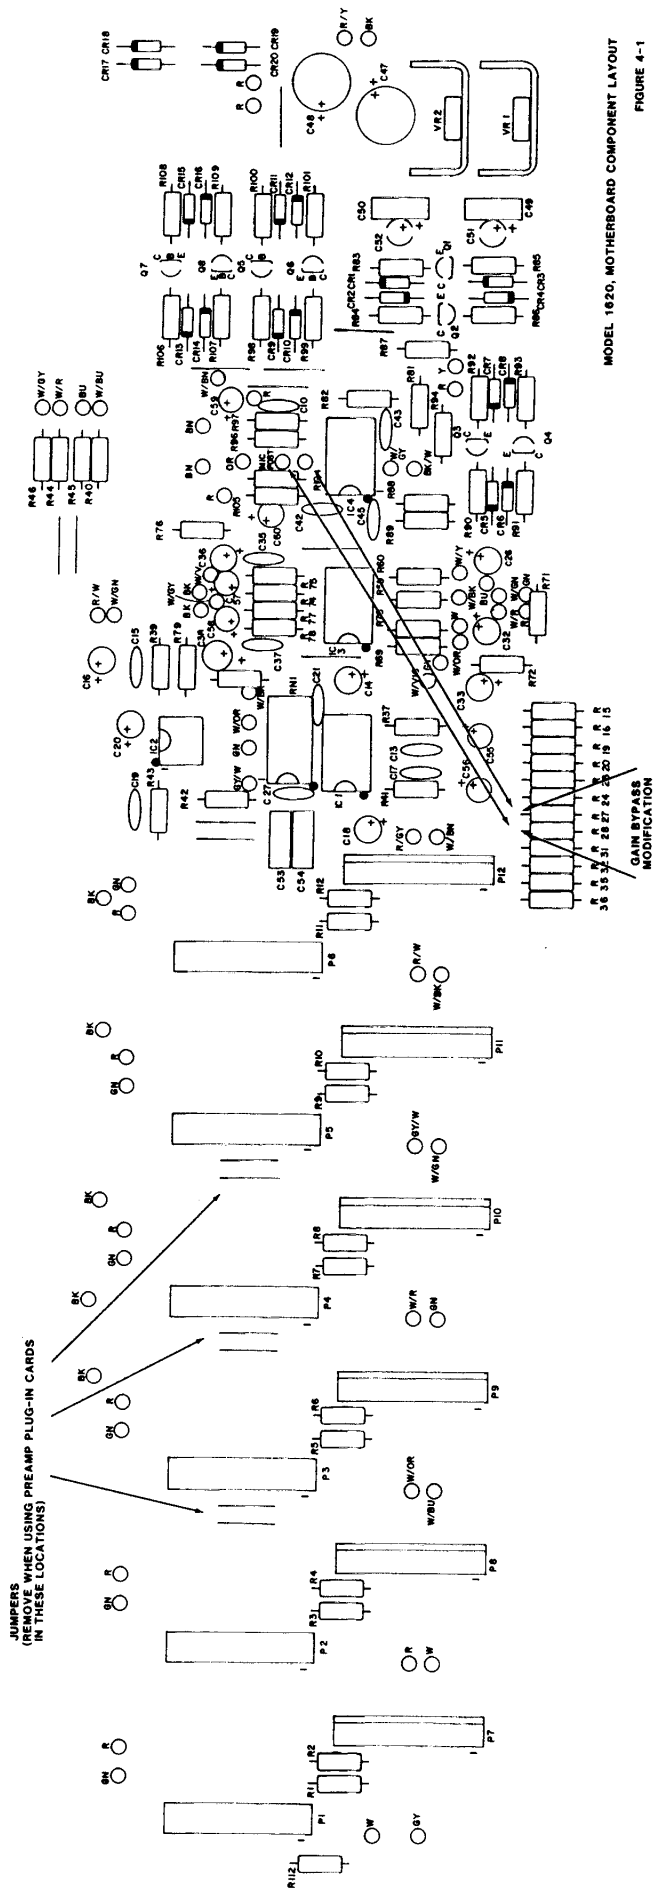

FIGURE 4-1. Motherboard Component Layout
- 2) Locate the two bare wire jumpers to the left of the connector on the mother board into which the new preamplifier card will be installed. The connectors and jumpers are identified in Figure 4-1. These jumpers allow AUX INPUTS 1 - 3 to be used as line inputs when no preamplifier is installed, and must be removed to activate the preamplifier. The jumpers may be clipped off close to the motherboard with a wire cutter.
- 7) Locate the two bare wire jumpers to the left of the connector on the mother board into which the new preamplifier card will be installed. The connectors and jumpers are identified in Figure 4-1. These jumpers allow AUX INPUTS 1 - 3 to be used as line inputs when no preamplifier is installed, and must be removed to activate the preamplifier. The jumpers may be clipped off close to the motherboard with a wire cutter.
- 3) Locate R27 and R28 on the motherboard (refer to Fig. 4-1).
- 7) Solder the free end of the R28 wire to the motherboard hole labelled "MIC POST." The free end of the R27 wire is to be soldered to the free hole next to it. Refer to Figure 4-1.